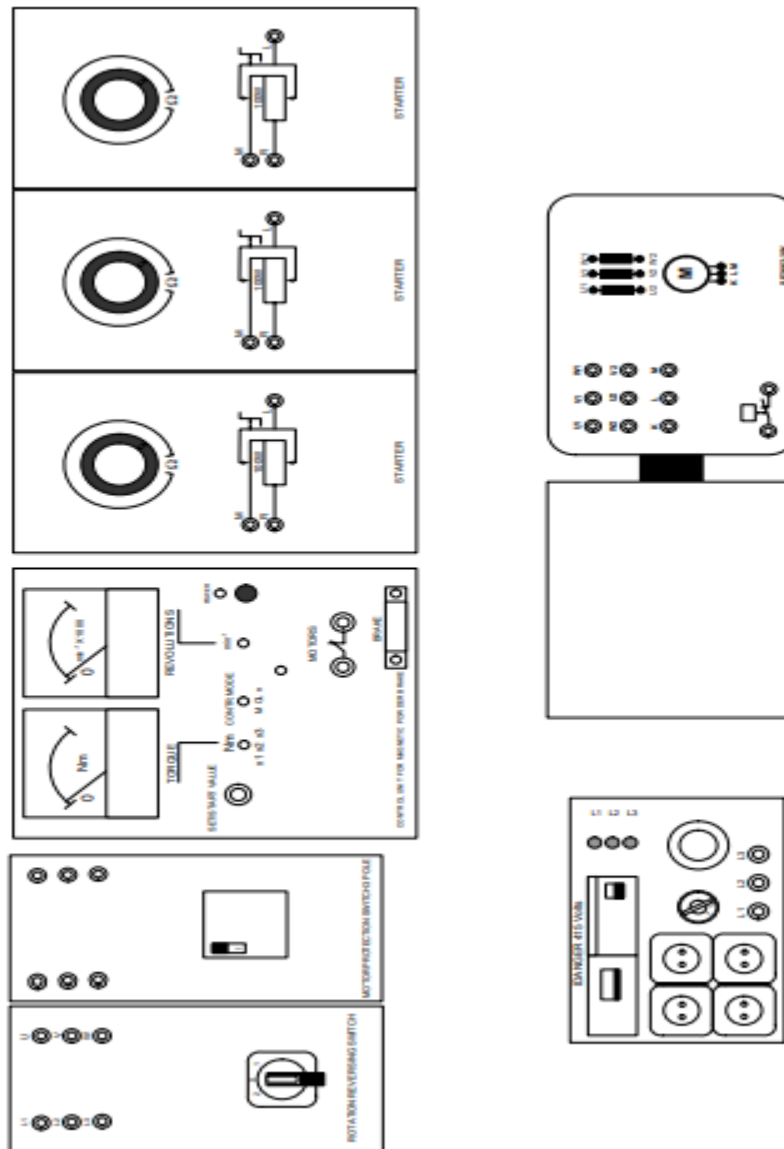

FIG 3
6. Construct the circuit shown in Fig 3.
2. For star-delta starting , connect the cage motor to the terminals of the stardeltaswitch (FIG.3)